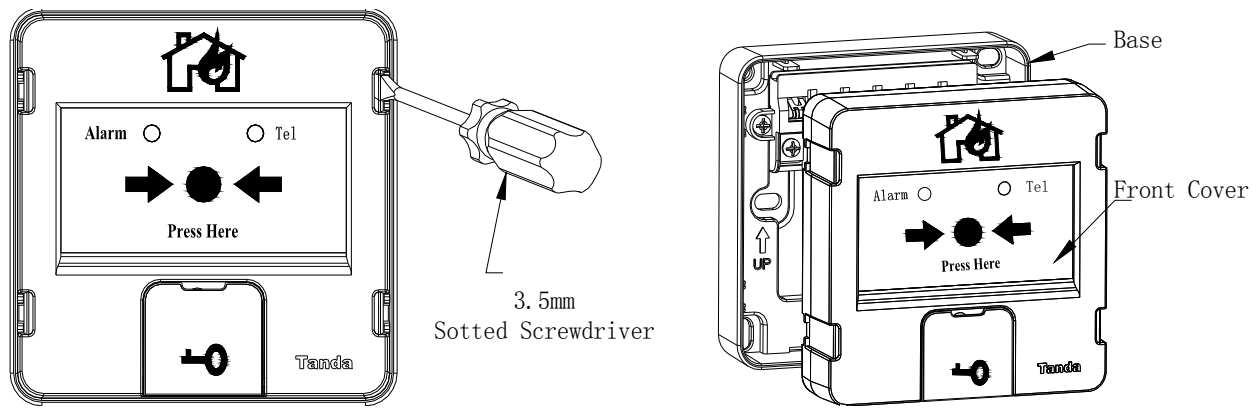

Figure 3
5. The manual fire alarm call point base and the front cover are pluggable., which can be separated by using a 3.5mm slotted screwdriver as shown in Figure 3.